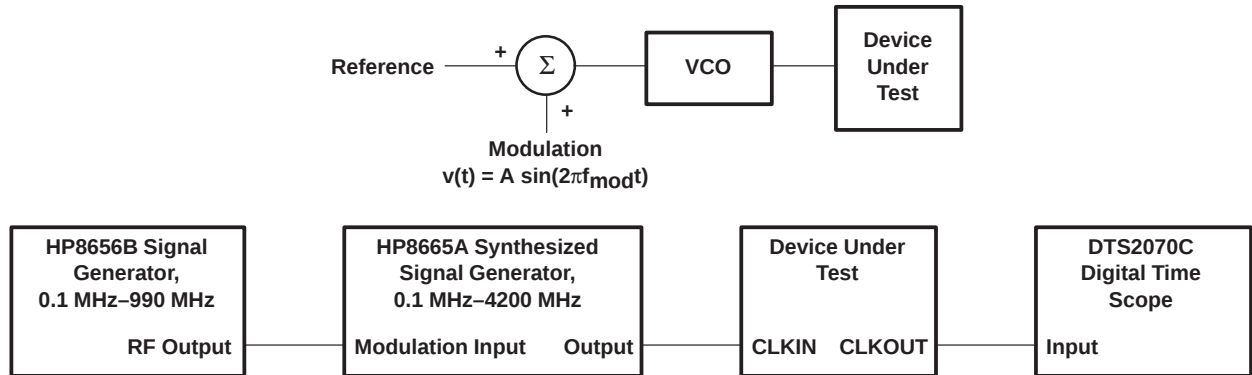

Figure 7. Output Clock Jitter Test Setup
| t RSKM Receiver input skew margin § (see Figure 7)          | t c = 15.38 ns (±0.2%), Input clock jitter  < 50 ps ¶ | T A = 0°C to 85°C  |                     | 490 | ps   |
| t d Delay time, input clock to output clock (see Figure 7)             | t c = 15.38 ns (±0.2%)                                               |                               | 3.7                 |     | ns   |
| Δt C(O) Change in output clock period from cycle to cycle # | t c = 15.38 + 0.75 sin (2π500E3t) ± 0.05 ns, See Figure 7            |                               | ±80                 |     | ps   |
|                                                                                   | t c = 15.38 + 0.75 sin (2π3E6t) ± 0.05 ns, See Figure 7              |                               | ±300                |     |      |